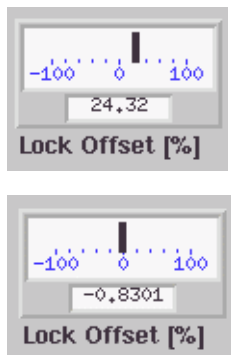

Figure 7-25 Centering the AFC meter.
5. **Adjust the FINE AFC Potentiometer.** Turn the knob until the AFC needle is once again centered in the AFC meter. (See Figure 7-25.)